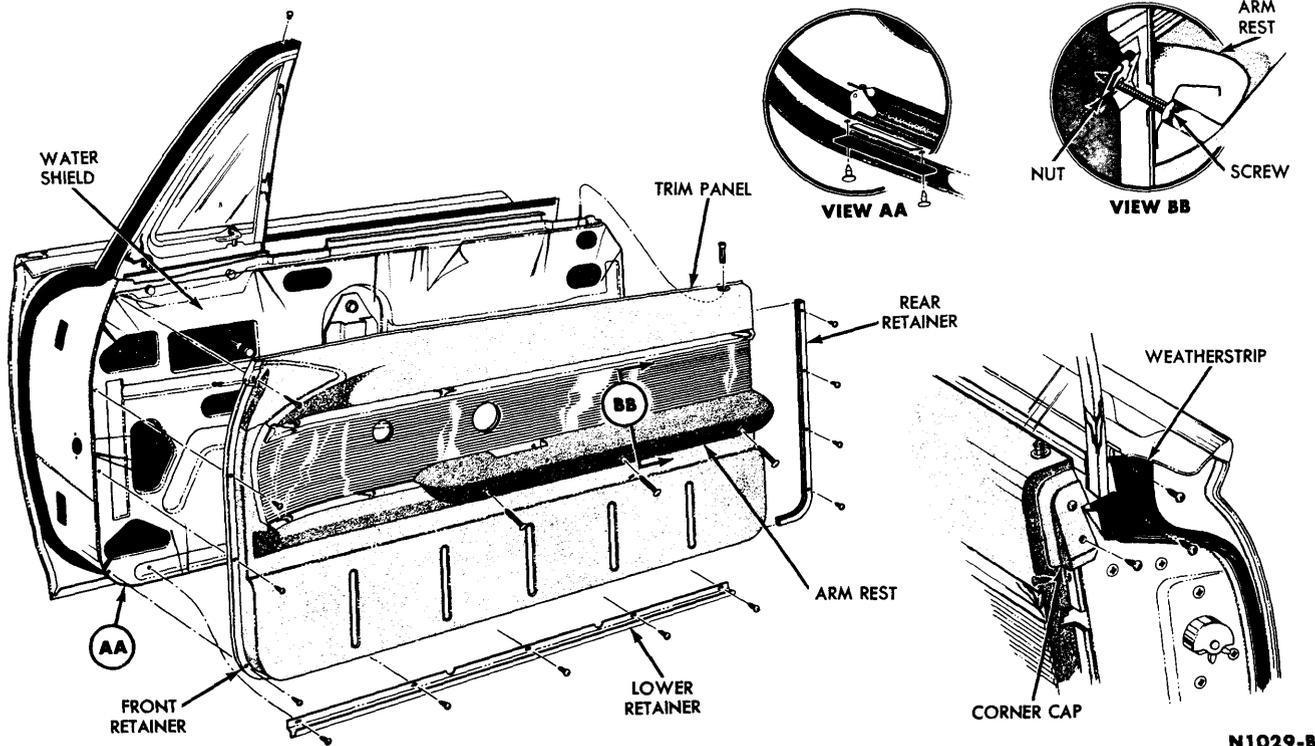

FIG. 6—Door Trim Panel
1. Remove the control handles (Fig. 5). Remove the arm rest retaining screws, and remove the arm rest (Fig. 6).
(Fig. 6). Remove the door belt corner cap (Fig. 6). Remove the screws that retain the trim panel front and rear retainer strips to the door inner panel, and remove the trim panel. If the door has electric windows, disconnect the door switch wires at the switch.